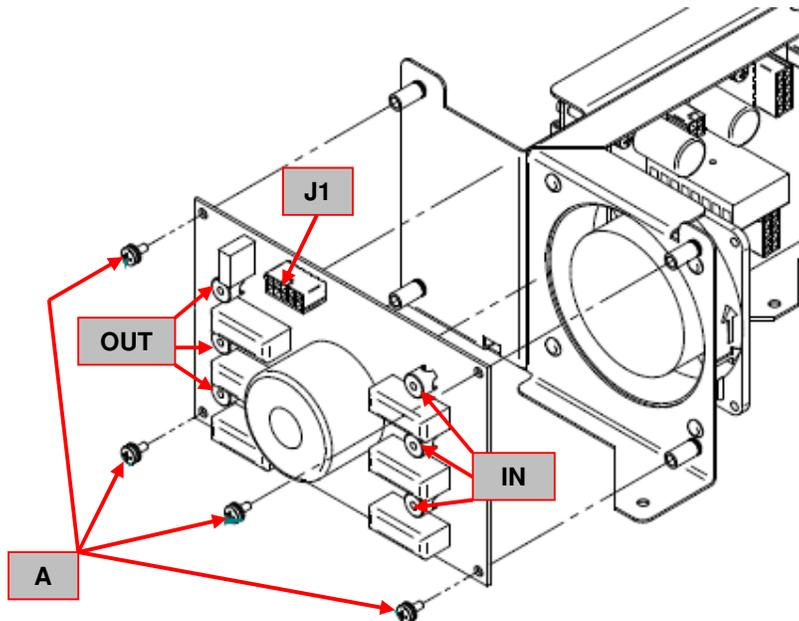

Figure 23
3. Locate the EMC board W05X1471. See **Figure 23**
4. Disconnect the connectors **J1**. See **Figure 23**
5. Using a short Phillips screwdriver PH02 remove the 3 input cables “IN” and the 3 Output cables “OUT” from the EMC board. See **Figure 23**
6. Using a short Phillips screwdriver PH02 remove the 4 screws (**A**) that fix the EMC board to the machine frame. See **Figure 23**.